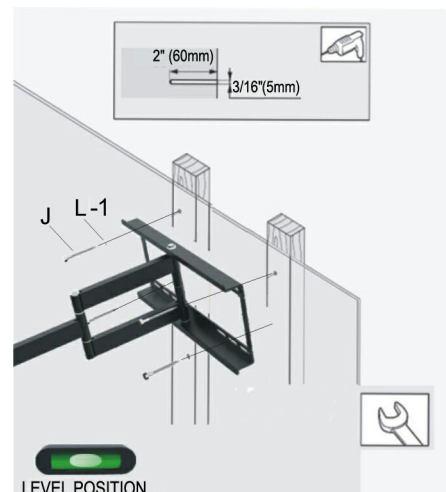

Figure 3
7. For each location, insert a bolt (J) and washer (L-1) into the wall (Figure 3).
8. Tighten the bolt with an open ended socket wrench by turning clockwise until tight (Figure 3).